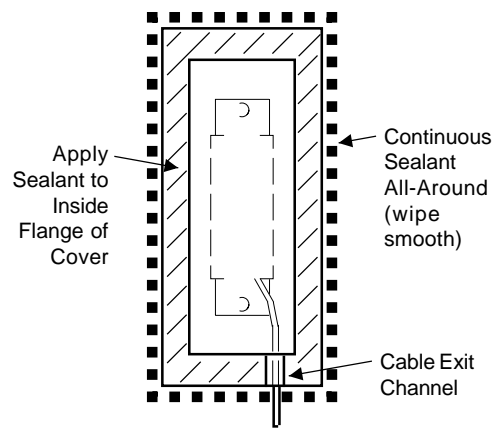

Figure 3-9. Environmental Cover
- See Figure 3-9. Apply a generous bead of sealant to the inside flange of the environmental cover. Add extra sealant to the cable exit channel.